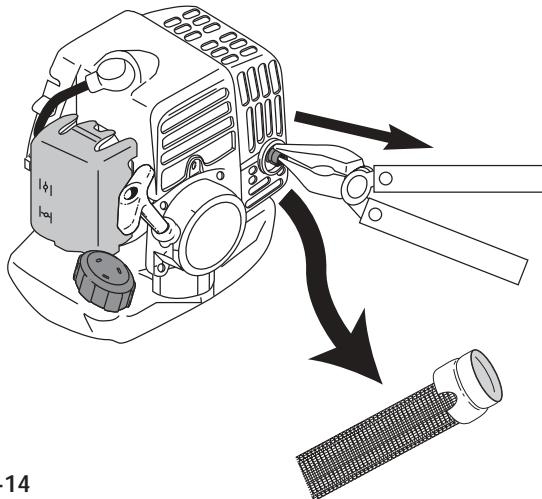

Fig. 6-14
2. Use a needle-nose pliers to grasp the collar of the spark arrestor and pull it out of the muffler (Fig. 6-14).